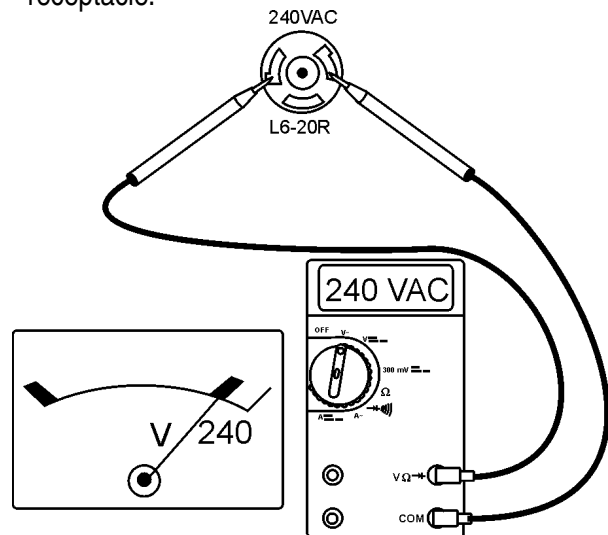

Figure 18. 240V Twist-Lock Receptacle
- Read the voltmeter on the front panel of the generator (Figure 18) and verify that 240 VAC is present at the 240V twist-lock receptacle. Using an external voltmeter verify that 240V is present at the 240V twist-lock receptacle.